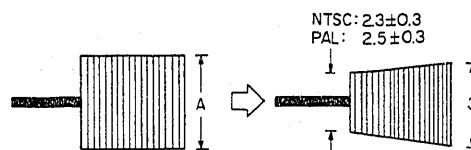
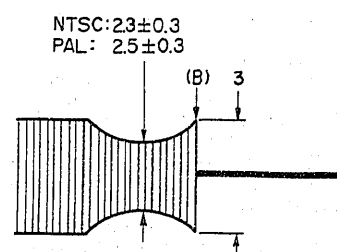
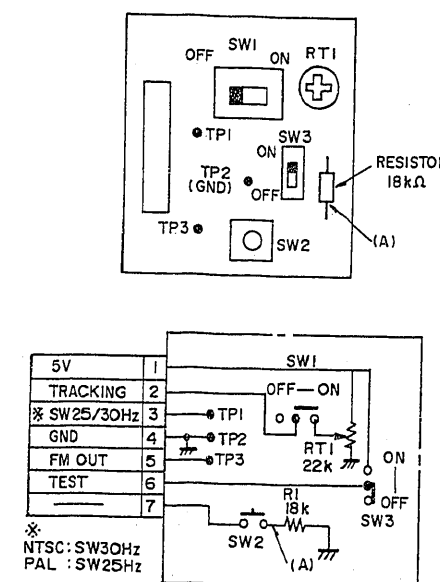

Fig. 4-1
Fig. 4-2
Fig. 6-1
<p>◆ Adjustment procedure</p> <p>Caution: Before performing this adjustment, refer to Fig. 6-1 and modify the ATF-R jig. Connect the ATF-R jig before supplying power.</p> <p>1) Load an alignment tape that has been completely rewound. Press the PLAY button and hold it, then set the POWER switch to VIDEO position.</p> <p>2) Connect an oscilloscope to TP3 on the ATF-R jig.</p> <p>3) Synchronize the oscilloscope with TP1 (SW25/30) on the ATF-R jig.</p> <p>4) Set the oscilloscope to (+) slope.</p>
#### 4. ADJUSTMENT AFTER REPLACING THE CYLINDER (Figs. 4-1, 4-2)
<p>● Adjustment procedure</p> <p>Caution: Before performing this adjustment, refer to Fig. 6-1 and modify the ATF-R jig.</p> <ol style="list-style-type: none"> <li>1) Load an alignment tape that has been completely rewound. Press the PLAY button and hold it, then set the POWER switch to the VIDEO position.</li> <li>2) Connect an oscilloscope to TP3 on the ATF-R jig.</li> <li>3) Synchronise the oscilloscope with TP1(SW25/30) on the ATF-R jig.</li> <li>4) Set the oscilloscope to (+) slope.</li> <li>5) Press SW2 on the ATF-R jig and hold it, then perform the following steps.</li> <li>6) Adjust the voltage level control of the oscilloscope so that portion (A) of the waveform is set to 4 graduations.</li> <li>7) Set SW1 on the ATF-R jig to ON.</li> <li>8) Turn RT1 on the ATF-R jig counterclockwise so that portion (A) of the waveform is set to 3 graduations.</li> <li>9) Adjust the height of the supply guide roller so the minimum amplitude of the waveform is set to NTSC: <math>2.3 \pm 0.3</math> / PAL: <math>2.5 \pm 0.3</math> graduations. (See Fig. 4-1)</li> <li>10) If this cannot be confirmed, adjust the height of the supply guide roller, referring to "3-3. Supply/Take-up Guide Roller Height Adjustment".</li> <li>11) Set the oscilloscope to (-) slope.</li> <li>12) Turn RT1 on the ATF-R jig so that portion (B) of the waveform is set to 3 graduations.</li> <li>13) Check that the minimum amplitude of the waveform is set to NTSC: <math>2.3 \pm 0.3</math> / PAL: <math>2.5 \pm 0.3</math> graduations. (See Fig. 4-2)</li> <li>14) Perform the following electrical adjustments. <ul style="list-style-type: none"> <li>• Head switching point adjustment</li> <li>• Record luminance/chroma level adjustment</li> </ul> </li> </ol> <p>Caution: After adjustment is complete, be sure to reverse the modification to ATF-R jig.</p>
#### 6. MODIFICATION TO ATF-R JIG (Fig. 6-1)